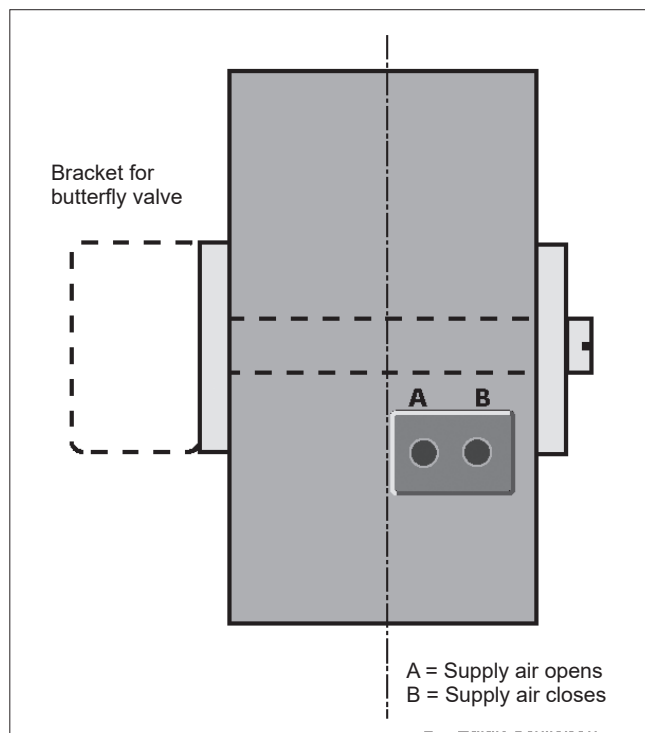

Fig. 17 Pneumatic connection
- Lastly, connect the energy supply (see fig. 17).